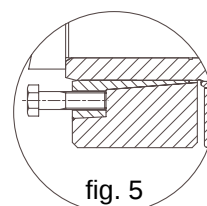

fig. 5
- If the coupling rings don't spring apart naturally after the bolts have been unscrewed, transfer some of the bolts (two bolts at 180° or 4 at 90°) into the internal ring extraction holes (see Fig. 5), giving them no more than one turn a time to tighten them, alternating if there are 2 bolts and in a circle if there are 4.